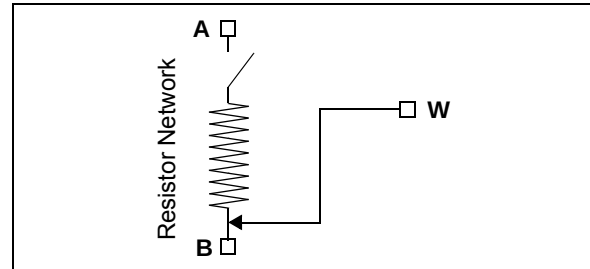

**FIGURE 5-2:** Resistor Network Shutdown State (RxHW = '0').
- The P0W, P1W, P2W, and P3W terminals are simultaneously connect to the P0B, P1B, P2B, and P3B terminals, respectively (see Figure 5-2)